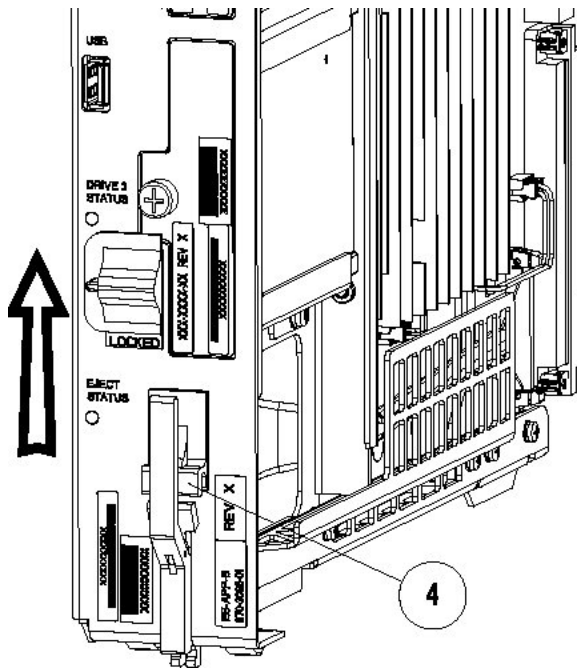

Figure 14: E5-APP-B Card Eject Hardware Switch, UNLOCKED
1. On the APP-B card, slide the Ejector switch (4) up to the UNLOCKED position (see Figure 14: E5-APP-B Card Eject Hardware Switch, UNLOCKED).